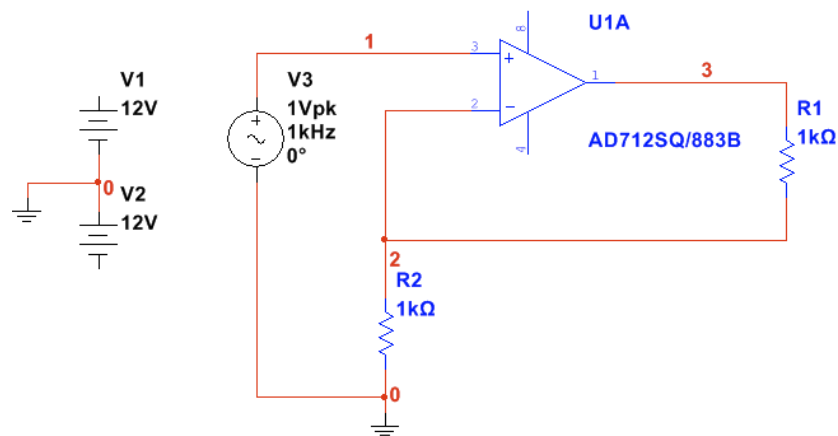

Figure 5. Wiring the schematic.
5. Complete the wiring as shown in Figure 5. Do not worry about the labeled numbers on the wires (also called nets).